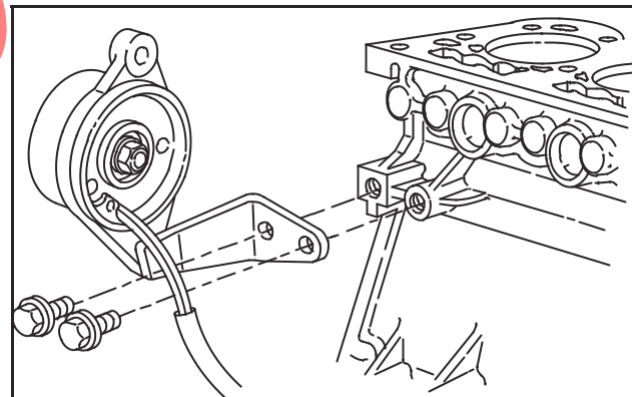

Fig. 20 – Install Alternator
1. Install alternator bracket and alternator, Fig. 20.